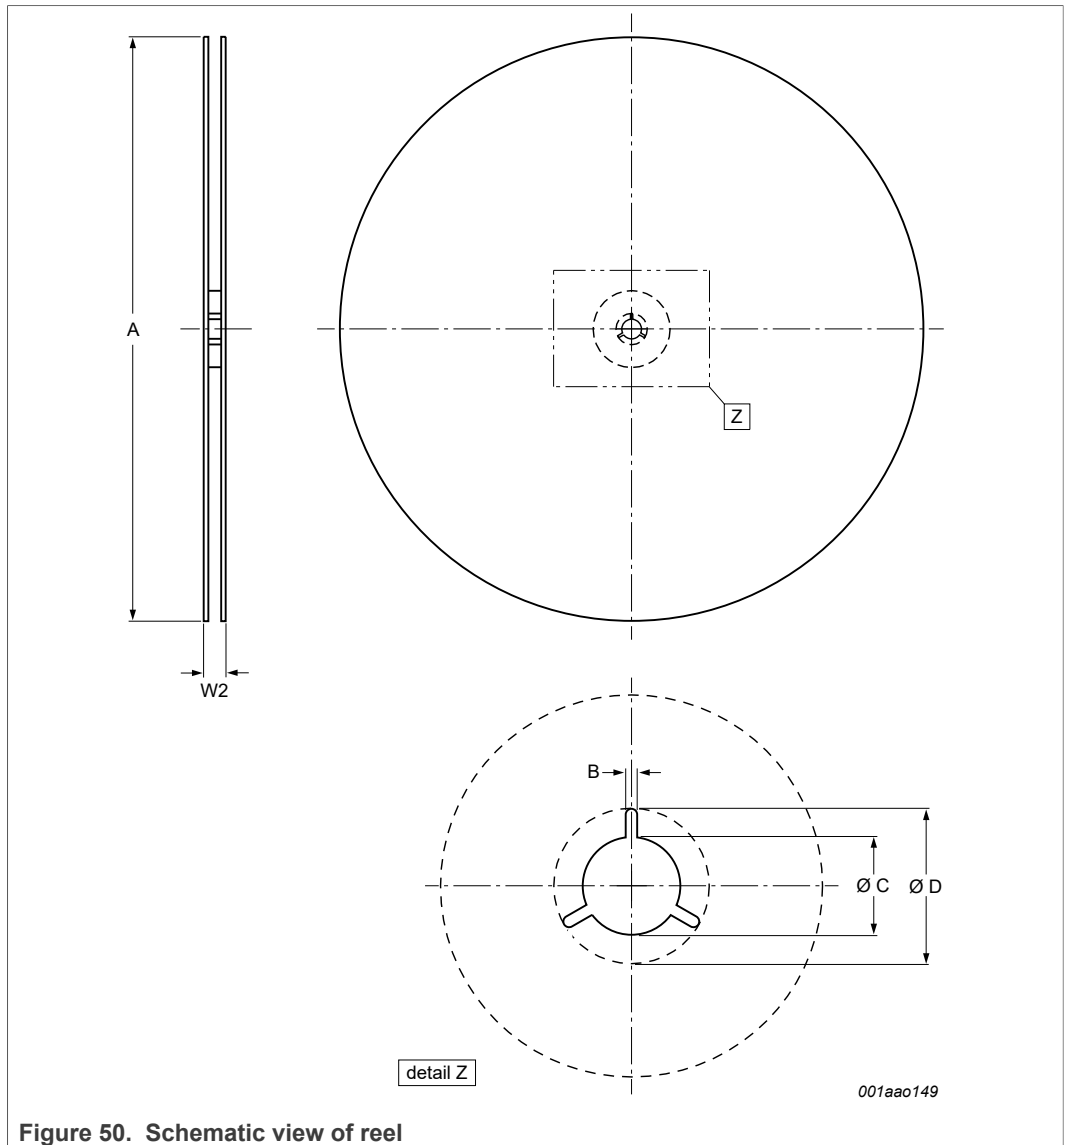

Figure 50. Schematic view of reel
- Reel dimensions (Figure 50 and Table 8)